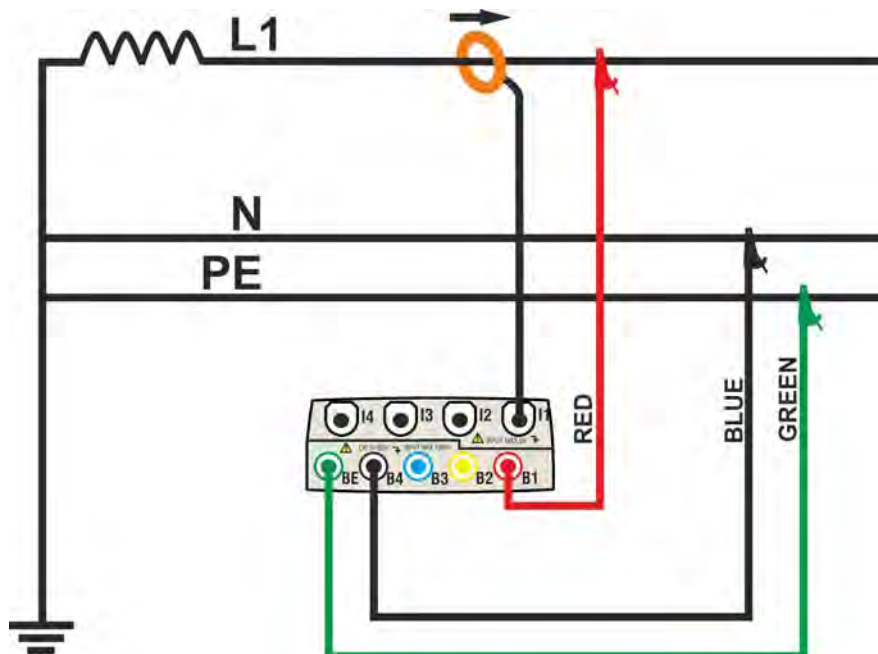

Fig. 115: Meter connection in a Single phase system – ENG_UK type
2. Connect voltage test leads on Phase, Neutral and Ground cables considering the colours as shown in Fig. 115).
3. Connect the transducer current clamp on L1 Phase cable as shown in Fig. 115) respecting the clamp's arrow direction indicating the current standard sequence from generator to load. **On Real Time Values' section screens always verify the positive value of Active Power and the power factor relative to load which should be normally inductive** before starting a recording. Reverse the clamp by 180 degrees on cables in case of negative readings.